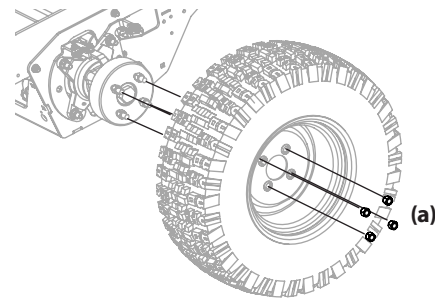

Figure 29
1. With the tires on the ground, loosen, but do not remove the four lug nuts (a). See Figure 29.